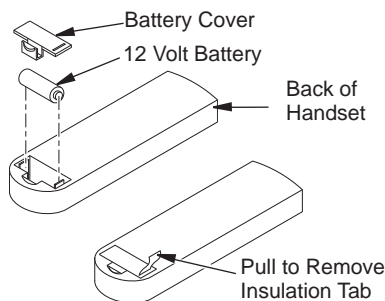

Figure 47 - Installing Battery into Back of Handset
3. Activate remote handset battery by removing insulating tab on back of handset (see Figure 47). Battery is included pre-installed.